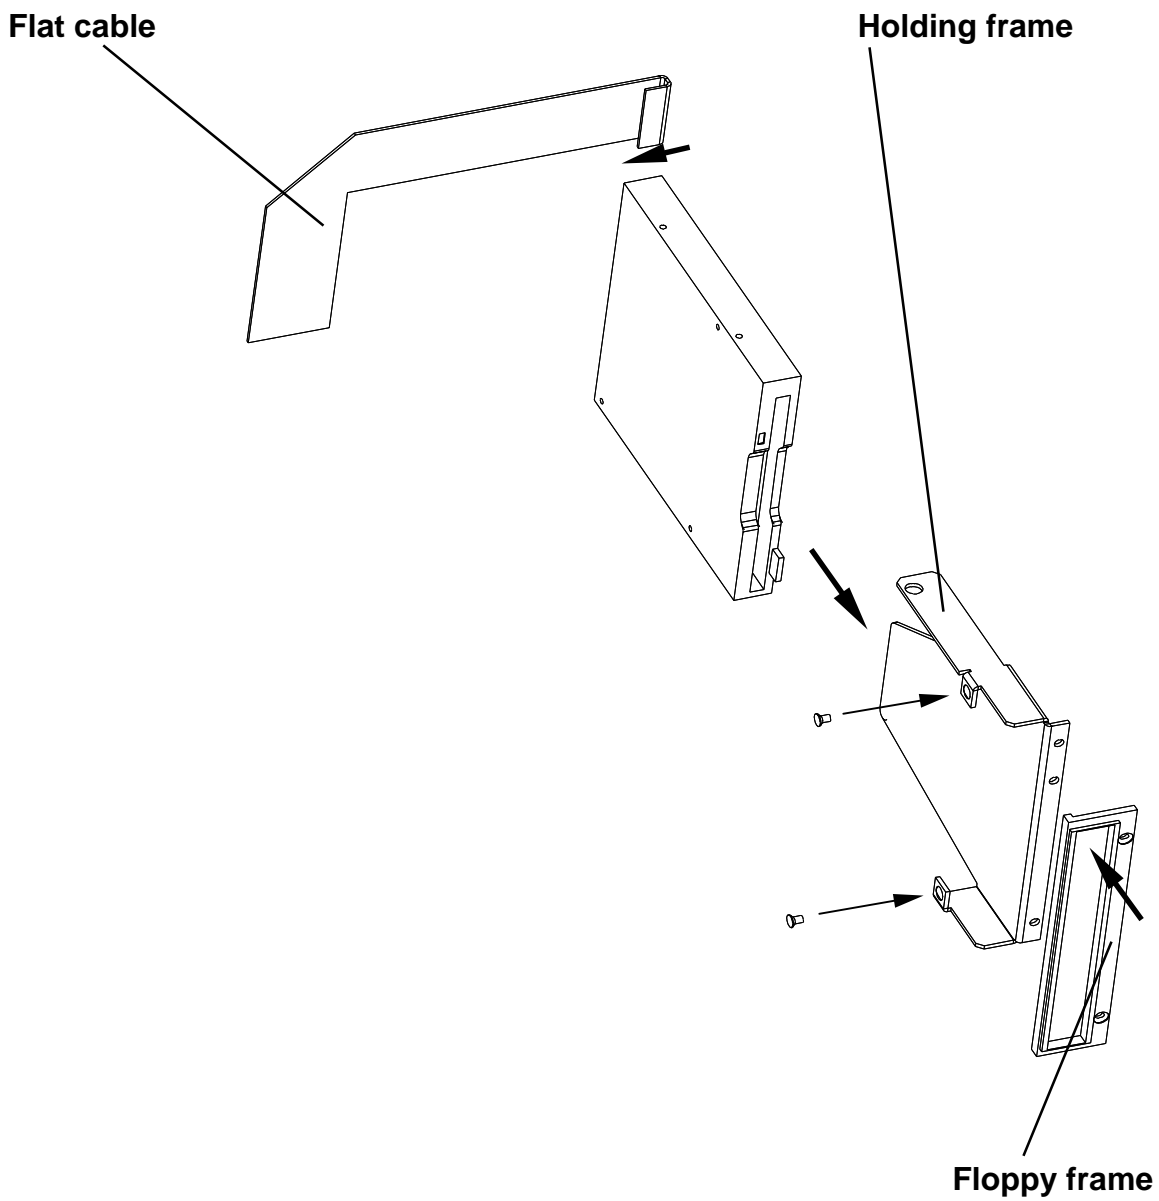

Fig. 4
- Fit floppy drive to holding frame and plug flat cable (Fig. 4).